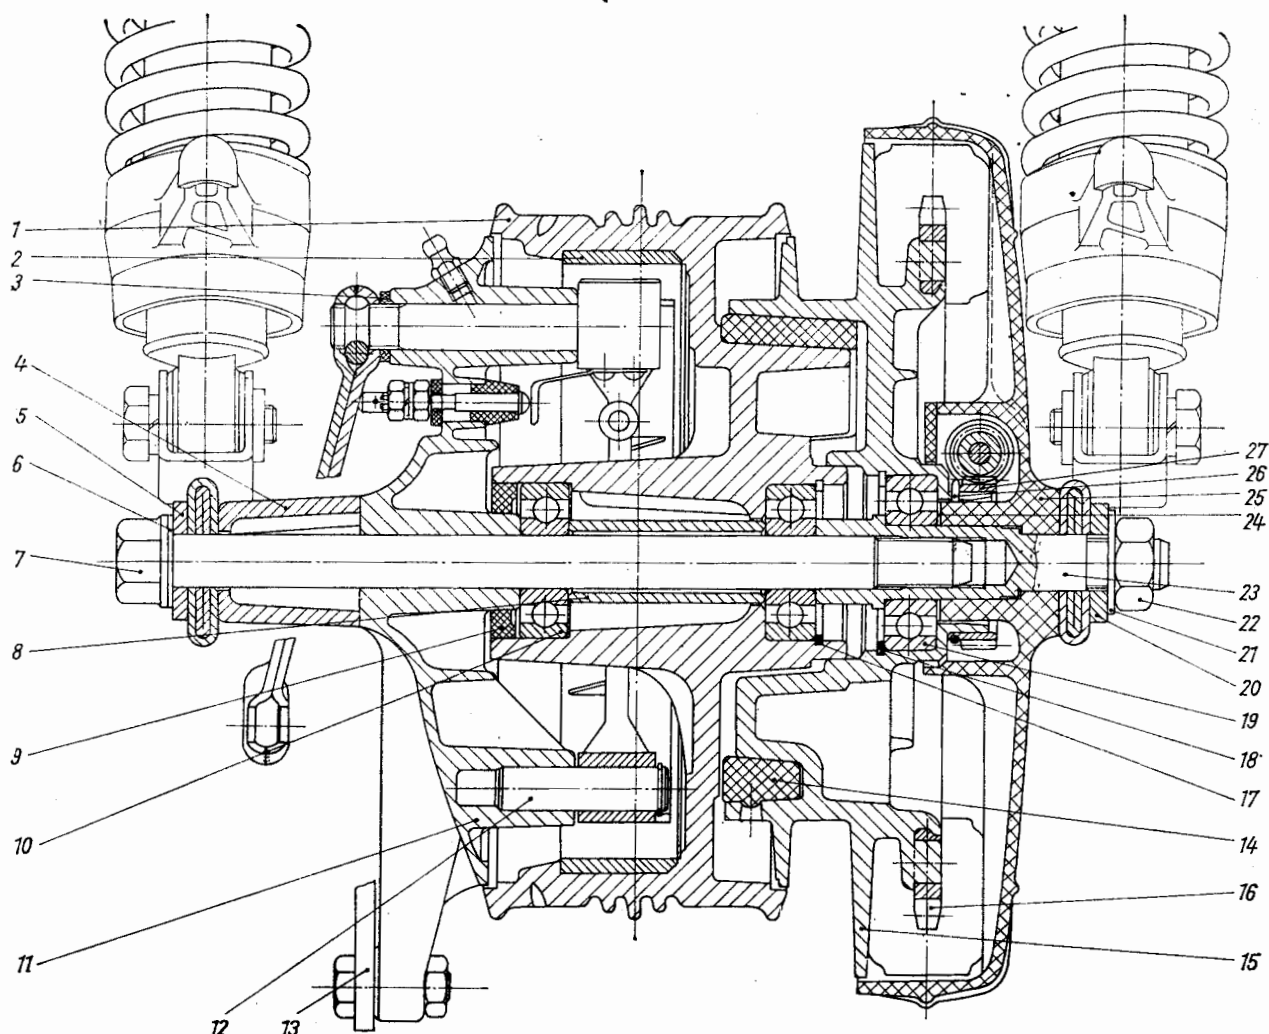

Fig. 112. Rear wheel bearing, drive and brake (sectional view)
(1) Union nut
(2) Fastening screws
(3) Rubber packing
(4) Actuation lever
5.7. Rear Wheel Drive and Rear Wheel Hub (Fig. 112)
(For Fig. 112 see page 43)